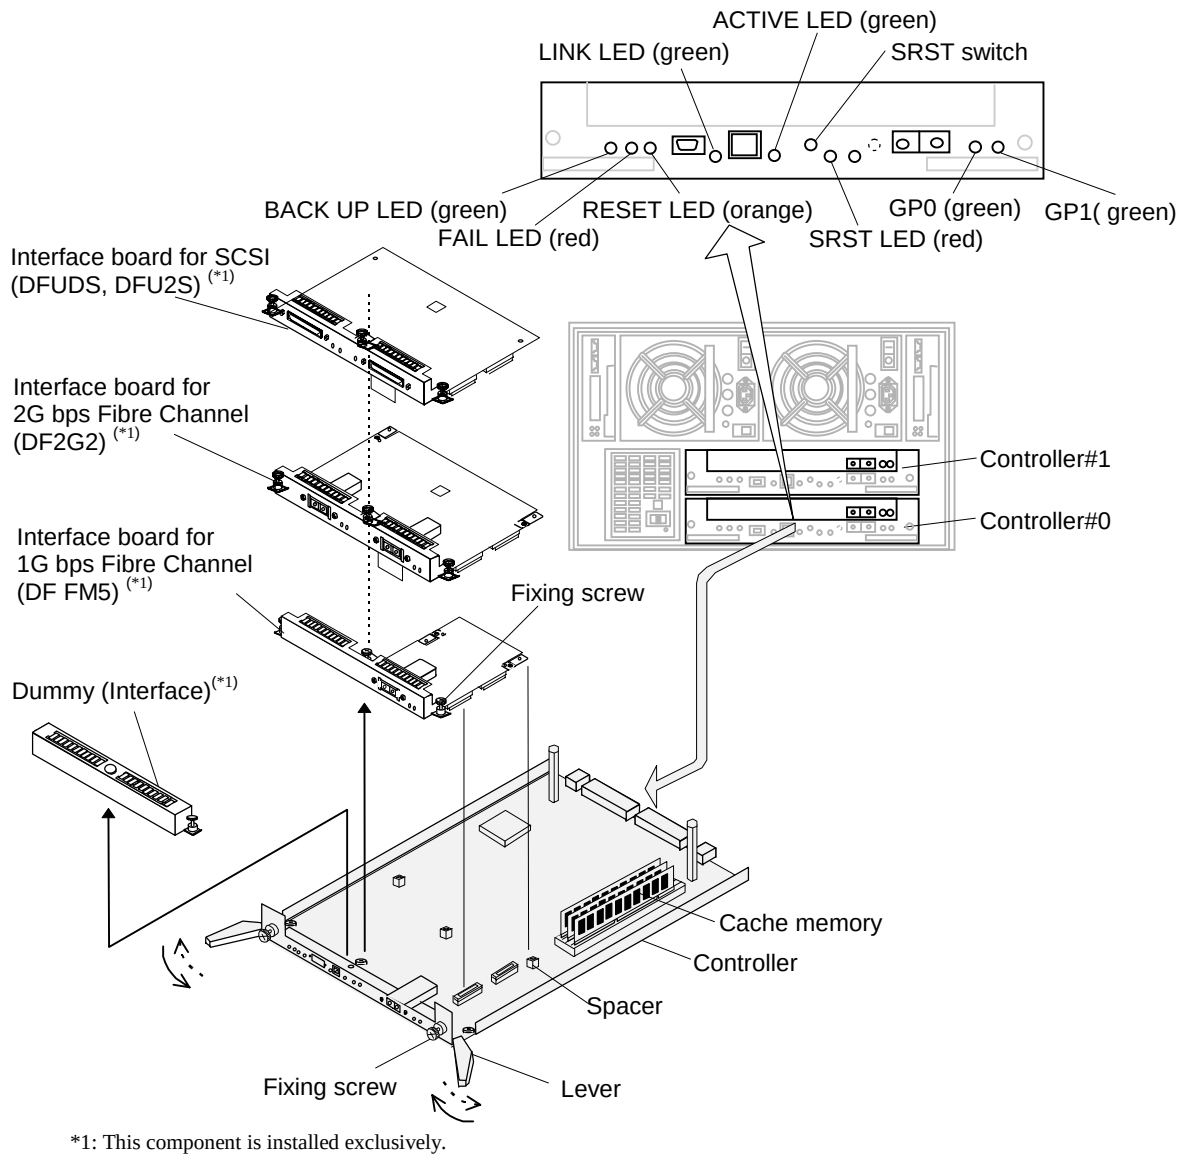

Figure 4.3.6 Controller Replacement and LED Locations
*1 : For the installation location of the FAIL LED, see Figure 4.3.6.
(1) Procedure for replacement with the power turned on (for the case of the dual Controller configuration only)
(a) Make sure that the FAIL LED (red) on the controller to be replaced is on. (Refer to Figure 4.3.6.)
- (b) To block the Controller by way of prevention against a failure, press the SRST switch and make sure that the FAIL LED (red) comes on (see Figure 4.3.6).
- (2) Procedure for replacement with the power turned off (See Figure 4.3.6.)
- (a) Confirm the installation location of the Controller whose FAIL LED is on (See Figure 4.3.6.).